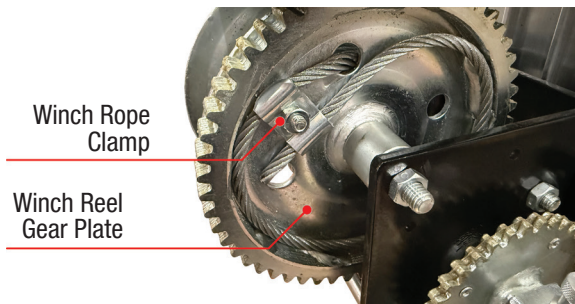

Figure 4-8: Winch Rope Clamp
6. Using 7/16" wrench or socket, loosen and remove the winch rope clamp on the winch reel (see Figure 4-8). Remove the cable from the winch reel.